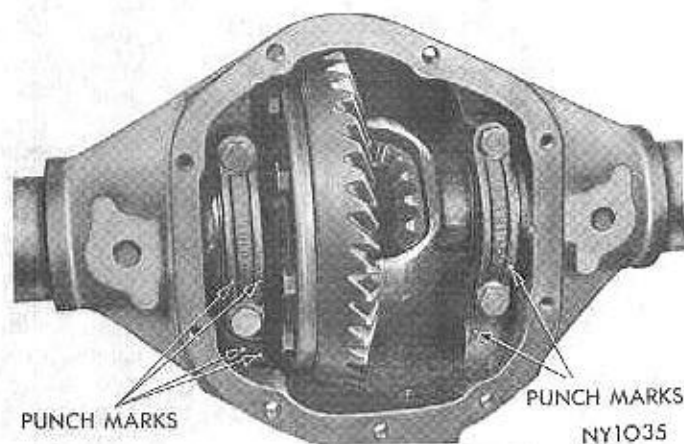
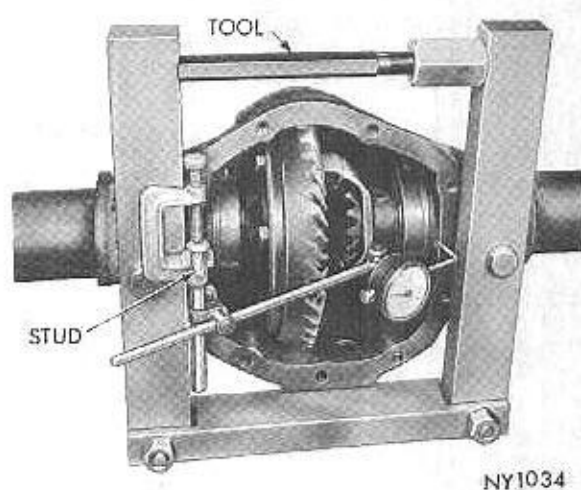

Fig. 11—Bearing Cap Identification
Fig. 12—Spreading Rear Axle Housing
(8) Mark axle housing and differential bearing caps for location in reassembly (Fig. 11).
(9) Remove differential bearing caps and locate spreader Tool C-3721 with tool dowel pins seated in locating holes of axle housing. Turn tool screw finger tight at this time.
(10) Install pilot stud, Tool C-3288, on left side of axle housing. Attach dial indicator and load indicator stem slightly against opposite side of axle housing (Fig. 12).
(11) Tighten spreader tool nut sufficiently to obtain .012 to .015 inch movement of dial indicator to permit removal of differential case assembly. (Do not spread over .020 inch.)
(12) Remove dial indicator and remove differential and ring gear assembly from axle housing. A light prying action must be used to unseat the differential